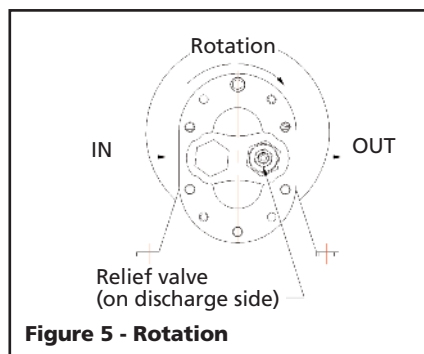

Figure 5 - Rotation
**⚠ CAUTION** Pumps are bidirectional, connect the assembly as shown in fig 5. Wrong input and output direction will give no discharge and could damage unit and/or injure personnel.